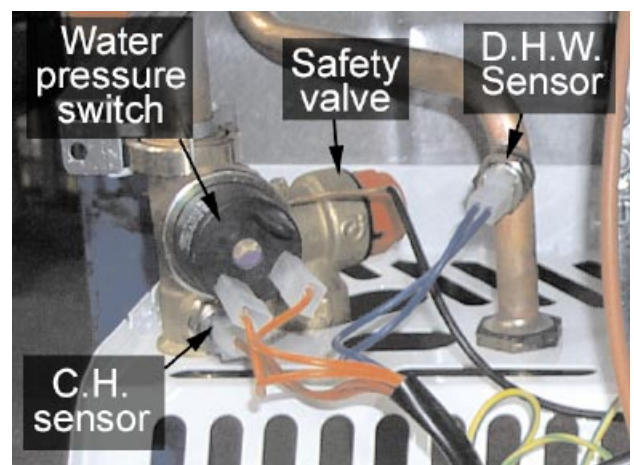

Fig. 29
## 7.07 D.H.W. temperature sensor or Central Heating Temperature Sensor (fig. 29)
- Identify the sensor from figure 29
## 7.08 Water Pressure Switch (fig. 29)
- Identify the switch from figure 29
## 7.09 Safety Valve (fig. 29)
- Identify valve from fig. 29